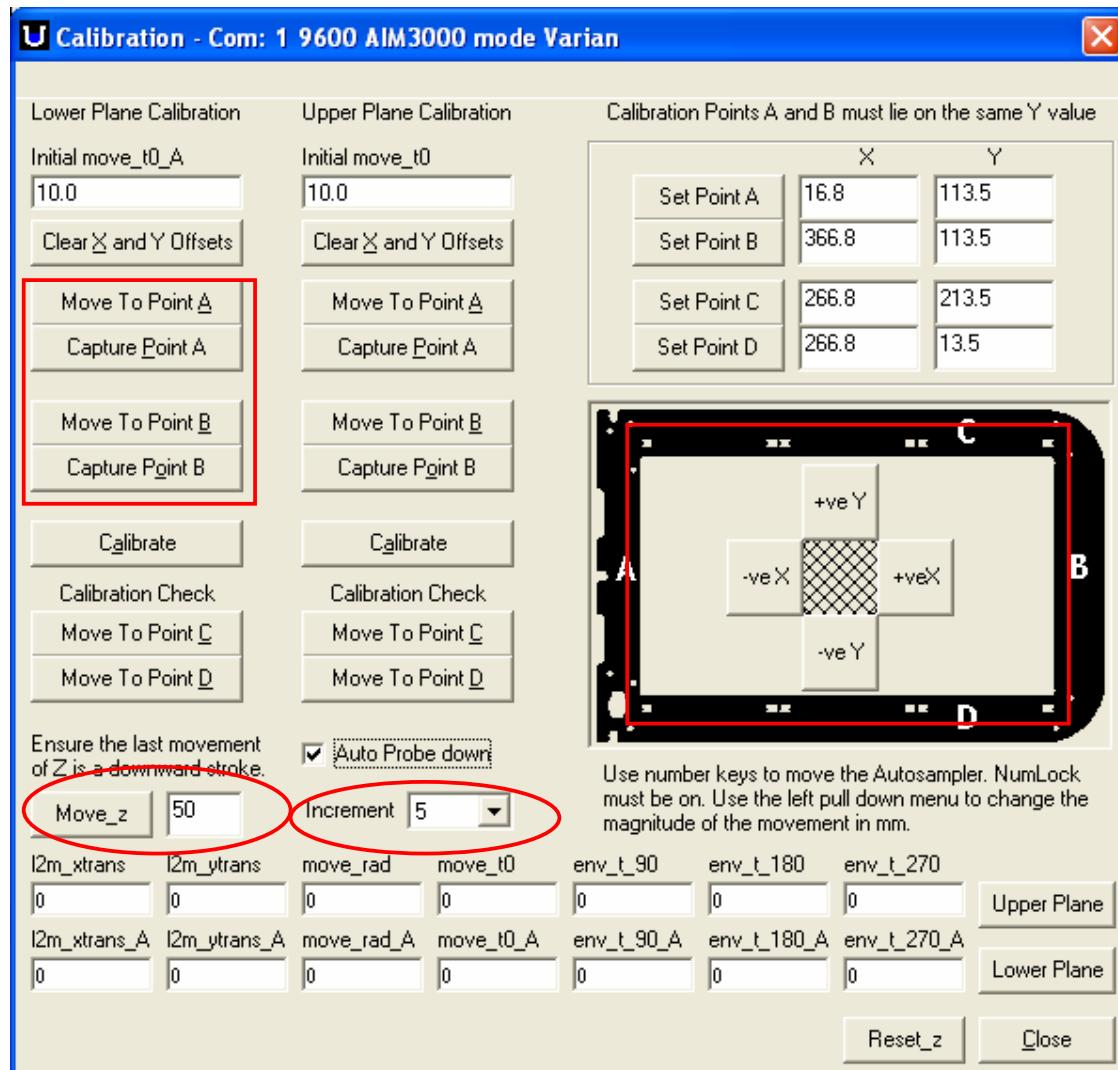

Figure 7: Calibration Page
8. Move the probe to position A by selecting the Move to Point A (Figure 7). Lower the probe by selecting the *Move_z* button (Figure 7), and change the depth of the downward stroke (the higher the number the further down it goes). In order to move the probe in the X and Y direction use the buttons marked +/- ve X and Y (Figure 7). The step increment can be adjusted by changing the value in the *Increment* pull down menu (Figure 7).
9. When the probe is correctly positioned over position A, then press the *Capture Point A* button (Fig 7) to lock in the coordinates.
10. Repeat the above steps for Point B making sure that you use the *Move to Point B*, and *Capture Point B* button (Figure 7).